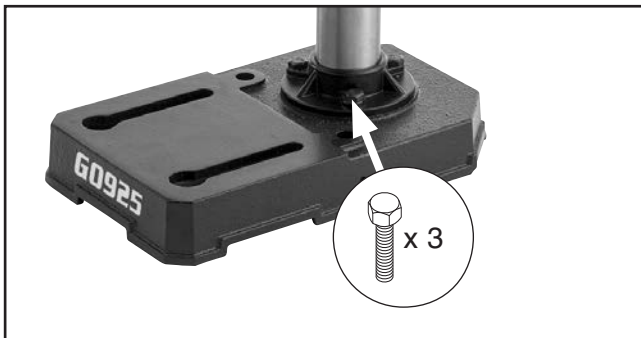

Figure 9. Column attached to base.
1. Attach column to base using (3) M8-1.25 x 20 hex bolts (see **Figure 9**).